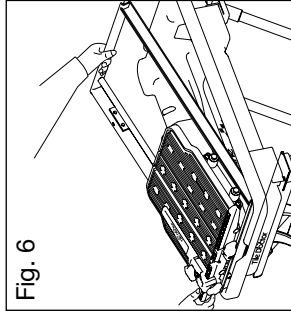

Fig. 6
2. Place the frame assembly and table into the water tray (Fig. 6).